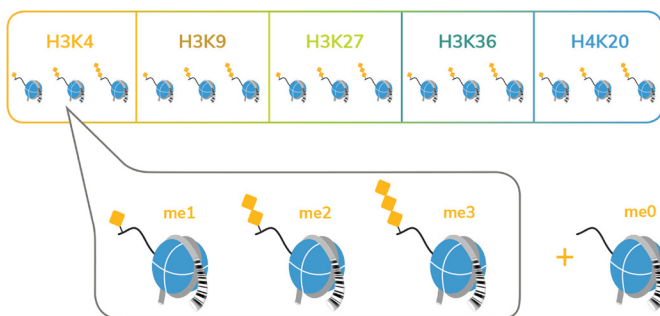
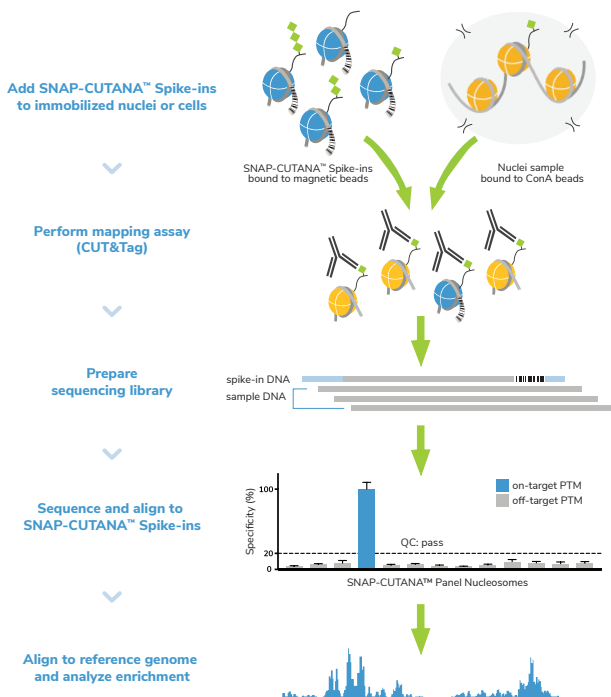

FIGURE 12
FIGURE 13
The K-MetStat Panel comprises designer nucleosomes representing 16 distinct histone lysine methylation states (Figure 12). Each PTM is represented by two unique DNA-barcoded templates (A and B, for an internal technical replicate). Nucleosomes are individually coupled to magnetic beads and pooled into a single panel for convenient one-step addition to CUT&Tag workflows (Figure 13).
- Add the K-MetStat Panel to designated control reactions immediately prior to the addition of H3K27me3 or IgG control antibody (Figure 13).
- Add antibody, which binds its target in cells **and** in the spike-in panel (Figure 13).